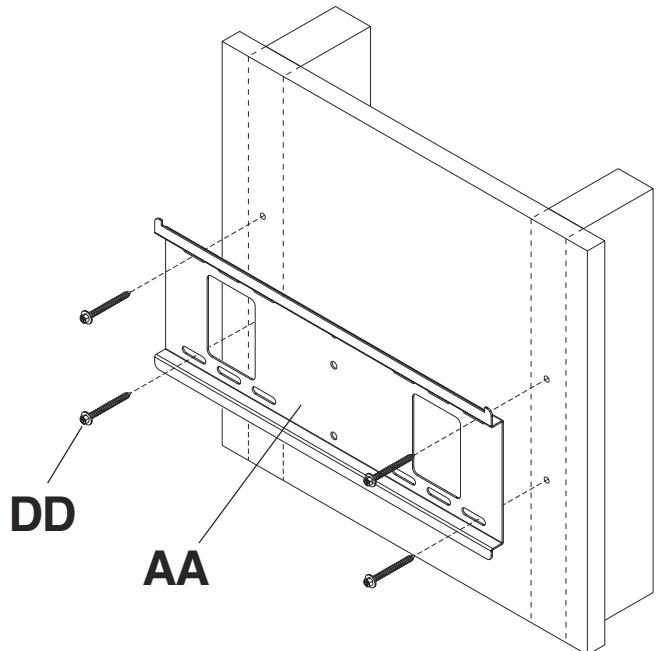

fig. 1.2
- 1** Wall plate (**AA**) can be mounted to two studs that are 16" apart. Use a stud finder to locate the edges of the studs. Use of an edge-to-edge stud finder is highly recommended. Based on their edges, draw a vertical line down each stud's center. Place wall plate on wall as a template. The top mounting slots should be located above the desired screen center as indicated by dimension **X** in figure 1.1 and chart below. Level plate, and mark the center of the four mounting holes. Make sure that the mounting holes are on the stud centerlines. Drill four 5/32" (4 mm) dia. holes 2-1/2" (65 mm) deep. Make sure that the wall plate is level, secure it using four #14 x 2.5" wood screws (**DD**) as shown in figure 1.2.